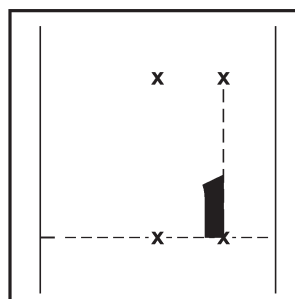

Figure 13
4. Lay out the curve arrow base (liner still on) with the RIGHT edge along the chalk line and the base along the base line (see Figure 13).